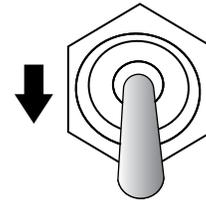

Figure 78. Control Power Switch (OFF)
6. Place the **Control Power** switch (Figure 78) in the **OFF** (down) position.
2. After the engine has completely stopped, place the **Control Power switch** in the **OFF** position (Figure 78).